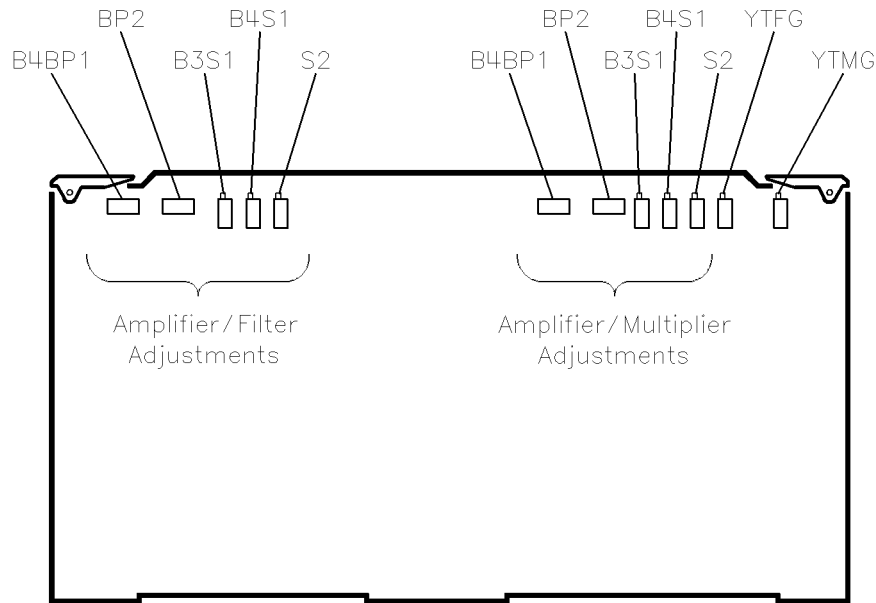

Figure 3-12. A12 Assembly Potentiometer Locations
18. Set A12R25 B3S1 fully clockwise (see Figure 3-12).
21. Adjust A12R25 B3S1 (see Figure 3-12) for maximum power at the high end. The high end power may peak twice. If it does, adjust the potentiometer to the lower peak (where the adjustment is furthest counterclockwise).
26. See Figure 3-12 and set: